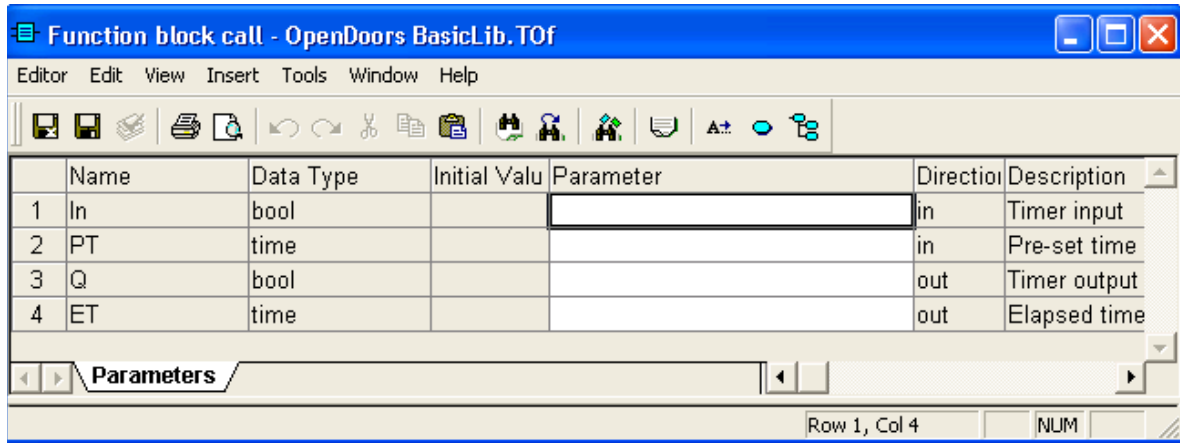

Figure 28. The Function block call editor
- When the leading left-hand parenthesis ‘ (‘ is entered, a Function block call editor opens, see Figure 28.